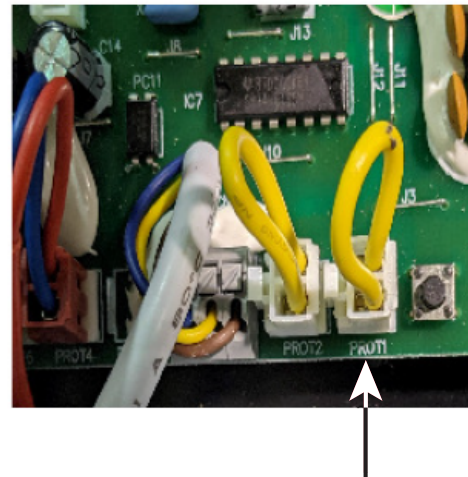

Figure 19. Install Automation Controller Cable
5. To install the automation controller cable, cut and splice the **YELLOW** jumper wire on Terminal **PROT1** to the automation controller cable. See **Figure 19**.